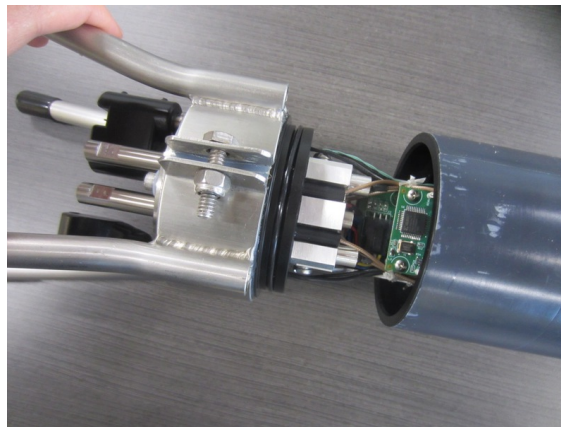

Figure 25: Sliding electronics out of pressure tube
2. Slowly slide the pressure tube past the internal frame (Figure 25), exposing the internal electronics.